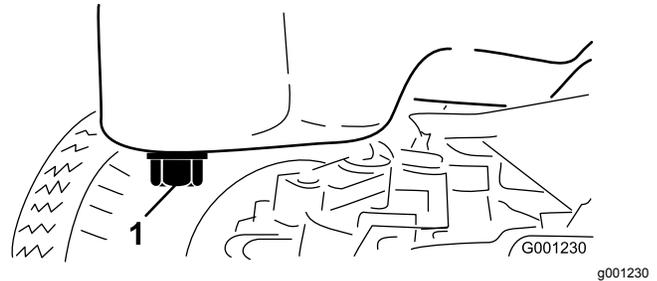

Figure 50
3. Set a drain pan under the oil pan and in line with the drain plug (Figure 50).